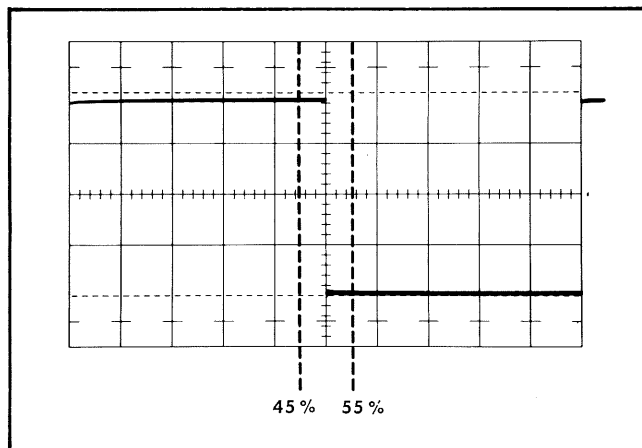

Fig. 5-1. Typical test oscilloscope display showing symmetry limits.
f. CHECK—Positive portion of square wave for duration of 5.5 divisions or more (55% duty cycle or more; see Fig. 5-1).
i. CHECK—Positive portion of square wave for duration of 4.5 divisions or less (45% duty cycle or less; see Fig. 5-1).